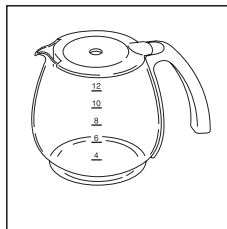

fig. 6
- Place the tank back in the coffee maker, pressing it lightly into place. The tank may also be filled without being removed, using the coffee jug marked with the level indicators (Fig. 6).